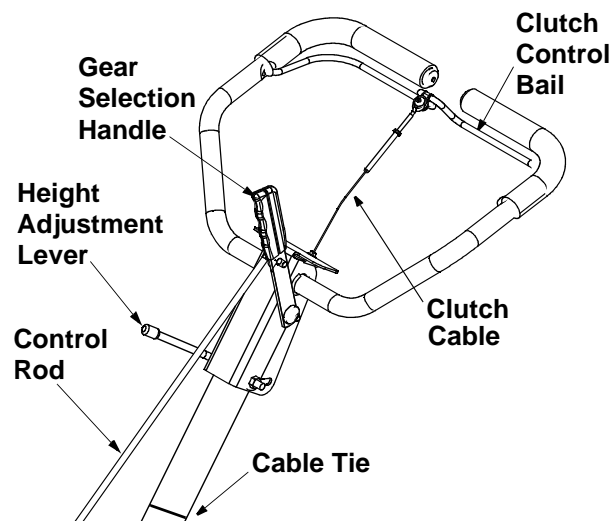

Figure 6
Secure clutch cable to handle using cable tie. Refer to Figure 6. Cut off excess end of cable tie.
- Insert the longer end of the control rod through the hole in the gear selector handle and secure with hairpin clip. See Figure 6.
The gear selection handle is located in the center of the handle on the tiller. It is used to select NEUTRAL, REVERSE, or one of the FORWARD modes (see below). Pull or push the handle so that the indicator on top of shift cover points to the operating mode desired. See Figure 6.
The clutch control bail is located below the handle. See Figure 6. Lifting the clutch control bail against the handle engages the wheel and tine drive mechanisms.